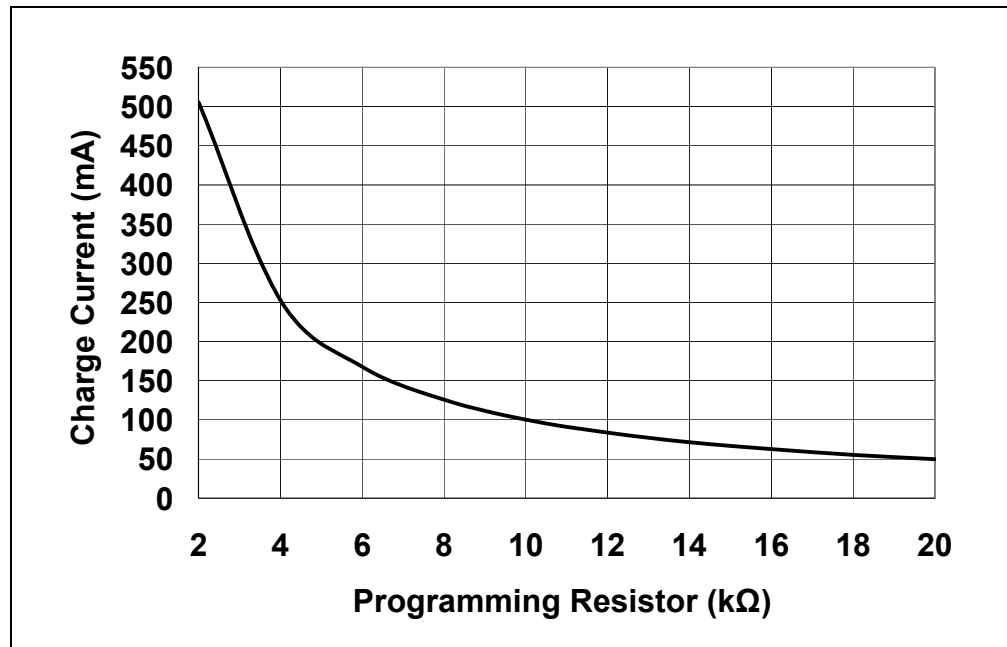

FIGURE 2-1: Charge Current (I_{OUT}) vs. Programming Resistor (R_{PROG}).
- Chip Enable (CE) Pin to disable the system when drive Low.
- Evaluating different charge current rates by changing R_{PROG} (Programming Resistor) values. See Figure 2-1
- Fast Charge Current for MCP73812 can be programmed with various resistors that based on the Figure 2-1. R_{PROG} is represented as R1 on the evaluation board.